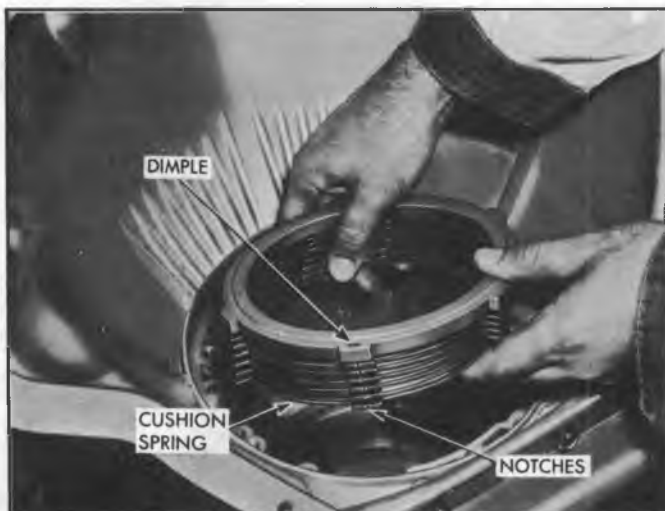

Fig. 30PG—Installing Clutch Plates (Typical)
12. Lubricate and install the reverse clutch pack (fig. 30PG) beginning with a reaction (spacer) plate and alternating with the drive plates (faced) until all reaction plates and all drive plates are in place. The notched lug on each reaction plate is installed in the groove at the 7 o'clock position in the case. Then install the thick pressure plate which has a "dimple" in one lug to align with the same slot in the case as the notched lugs on the other reaction plates.